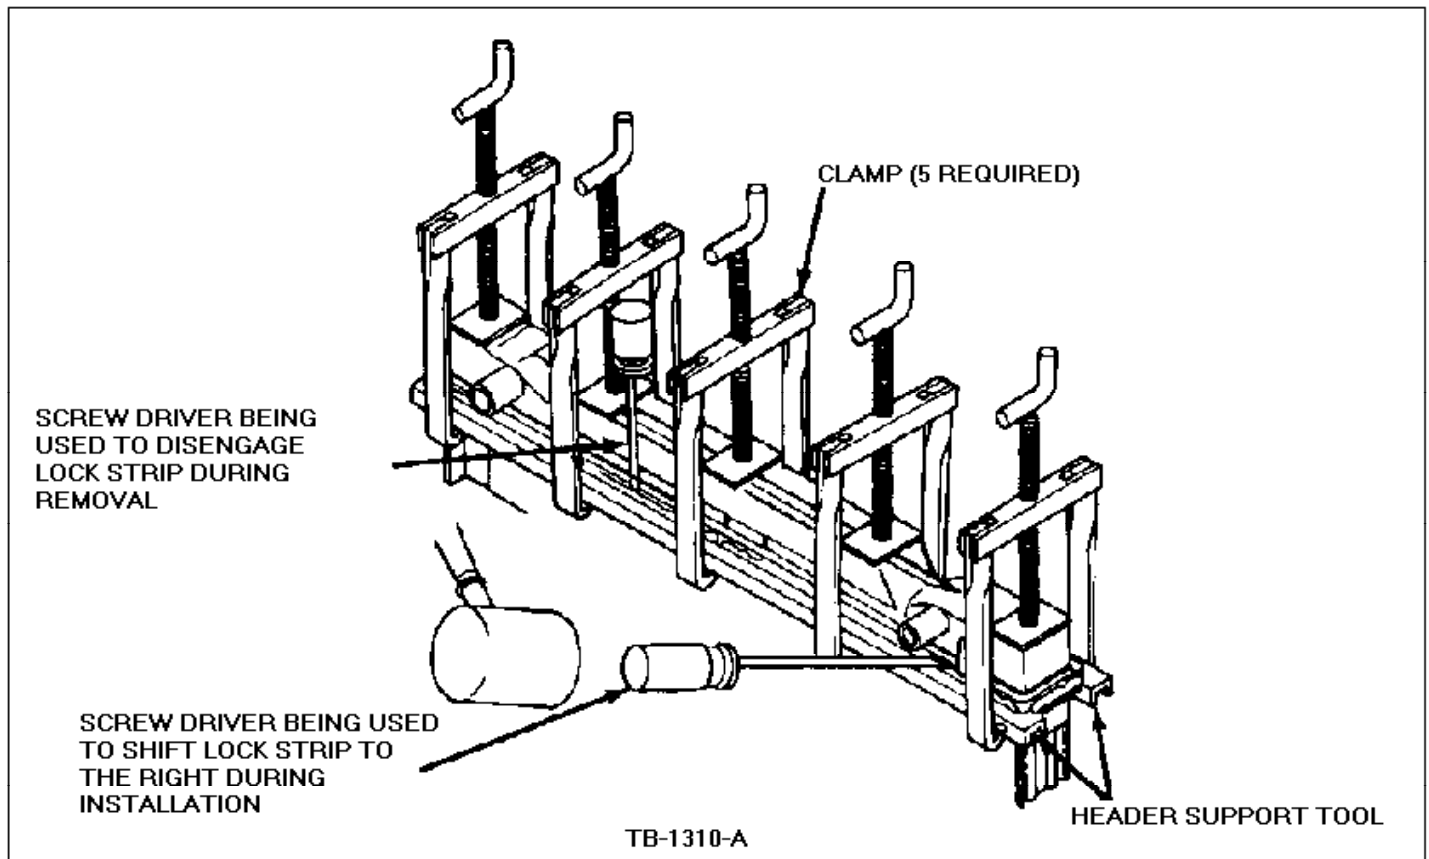
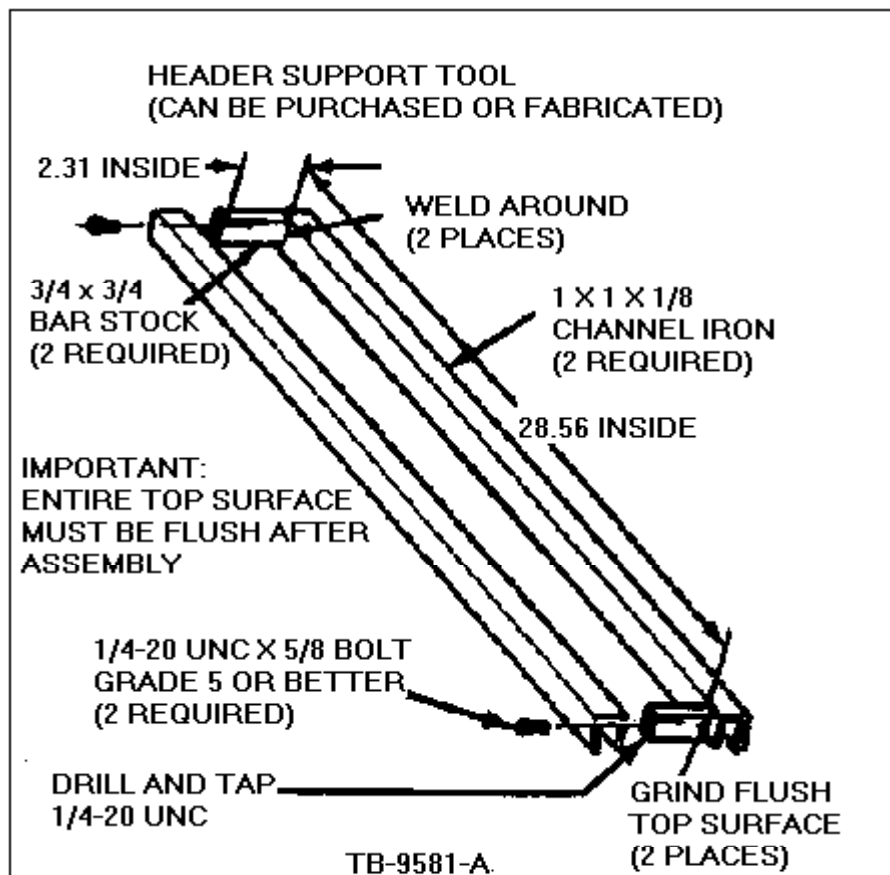
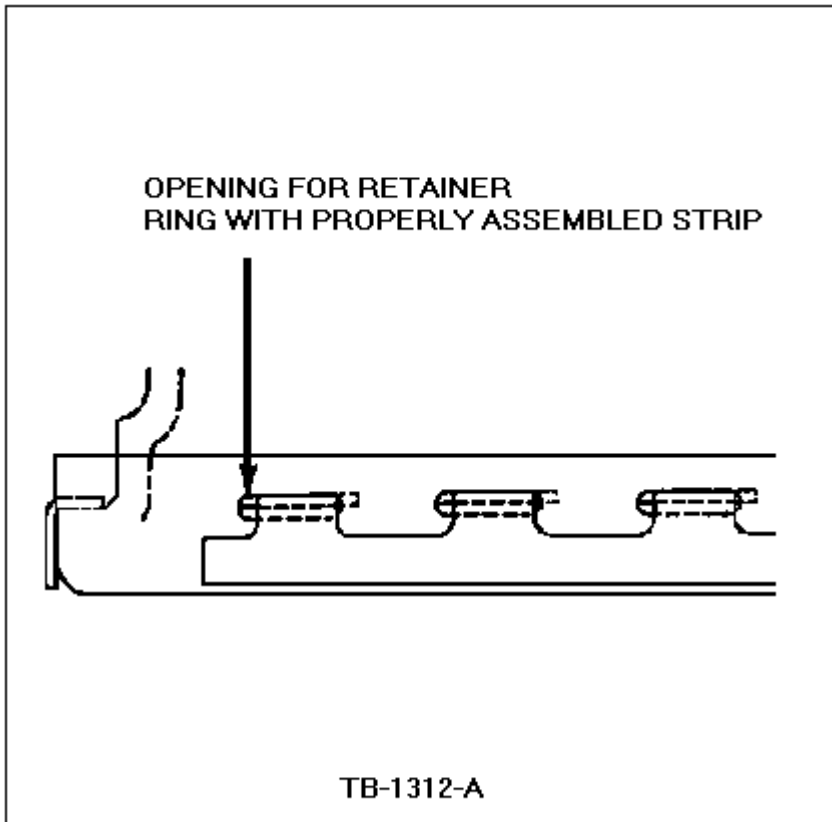

Figure 7 - Article 90-5-16
Figure 8 - Article 90-5-16
Figure 10 - Article 90-5-16
COMPLETELY SUPPORT THE HEADER TO PREVENT DISTORTION, FIGURE 7. IF THE HEADER BECOMES EXCESSIVELY DISTORTED, THE CORE MAY NEED TO BE REPLACED. THE HEADER MUST BE COMPLETELY SUPPORTED WITH A HEADER SUPPORT TOOL, FIGURE 8.
1. Position the header support tool and five header clamps as shown in Figure 7.
2. Hand tighten header clamps evenly until the locking strips become loose enough to be removed by hand or with the aid of a small screwdriver, Figure 7.
6. Clamp the tank in position on the header with the header support tool and five (5) header clamps, Figure 7. Tighten the header clamps to compress the O-ring gasket until the new locking strips can be inserted by hand.
7. Insert the new locking strips. Make sure all the tabs are positioned into the header slots. Tap strips to the right using a screwdriver and hammer as shown in Figure 7. This tapping locks the new strip into place. When fully engaged there will be an opening in the left hand edge of the header slot, Figure 10.